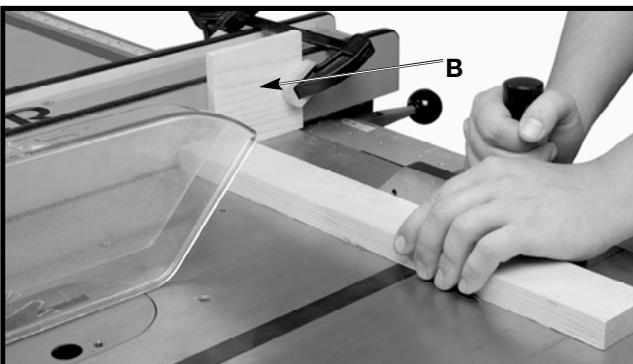

Fig. 45A
When cross-cutting a number of pieces to the same length, a block of wood (B) Fig. 45A can be clamped to the fence and used as a cut-off gage. It is important that this block of wood always be positioned in front of the saw blade as shown. Once the cut-off length is determined, secure the fence and use the miter gage to feed the work into the cut. This block of wood allows the cut-off piece to move freely along the table surface without binding between the fence and the saw blade, thereby lessening the possibility of kickback and injury to the operator.
**A CAUTION** WHEN USING THE BLOCK (B) FIG. 45A, AS A CUT-OFF GAGE, IT IS VERY IMPORTANT THAT THE REAR END OF THE BLOCK BE POSITIONED SO THE WORK PIECE IS CLEAR OF THE BLOCK BEFORE IT CONTACTS THE BLADE.